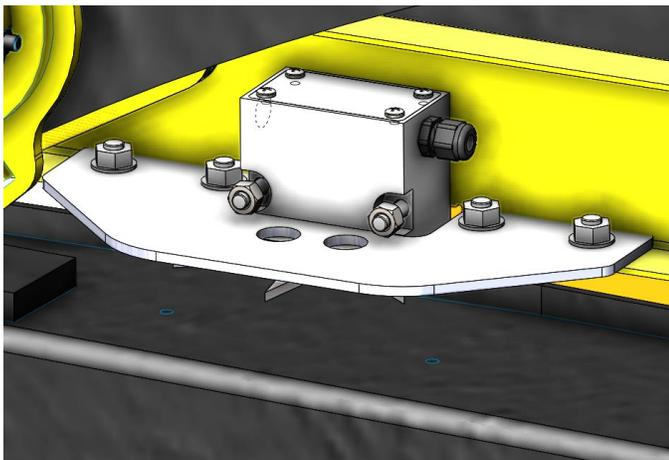

Figure 3
4. Position the left side reinforcement bracket (001-4644BHD) around the star wheel. This will be labeled '*Left Side of Baler, This Side Up*'. Shown mounted in Figure 3. Repeat mounting the star wheel and installation of the reinforcement bracket on the right side of baler.